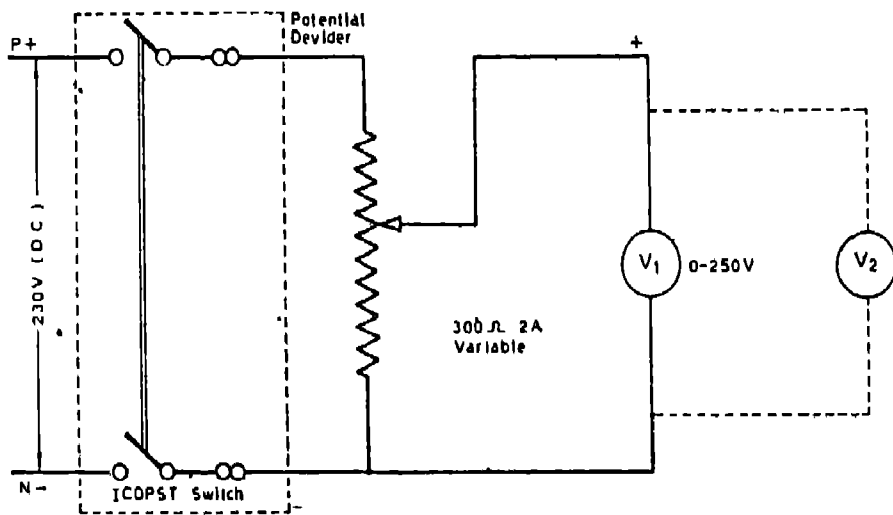

Fig 4.1 Measurement of voltage
- (i) Make the connection as shown in Fig. 4.1 and check the polarity of the voltmeter.